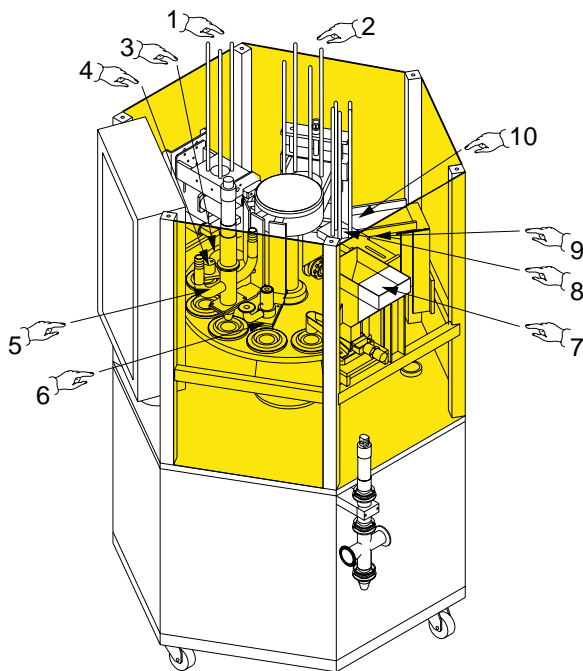

Fig. 5.1
- cone feed (*Pos. 1, Fig. 5.1*);
- gauge (*Pos. 3, Fig. 5.1*);
- chocolate spray (*Pos. 4, Fig. 5.1*);
- station for dosing ice cream or ice cream mixes (*Pos. 5, Fig. 5.1*) in one or two flavours;
- topping (*Pos. 6, Fig. 5.1*);
- granule (*Pos. 7, Fig. 5.1*);
- lid feed (*Pos. 8, Fig. 5.1*);
- lid closure (*pos. 9, Fig. 5.1*);
- product ejector (*Pos. 10, Fig. 5.1*).
- cup feed (*Pos. 2, Fig. 5.1*);
When changing format from cones to cups, it is necessary to replace the slot set, assembled the cup feed with its suction cup holders in place, replace the lid feed magazines, replace the cone lid crimpers with lid presses, and replace the cone ejector (*Pos. 10, Fig. 5.1*) with the cup ejector (*Pos. 11, Fig. 5.1*), replacing the expulsion plates.